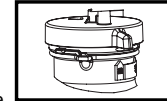

Figure 9
2. Rotate indicator on cap to the "On" position to apply soap (Figure 9).